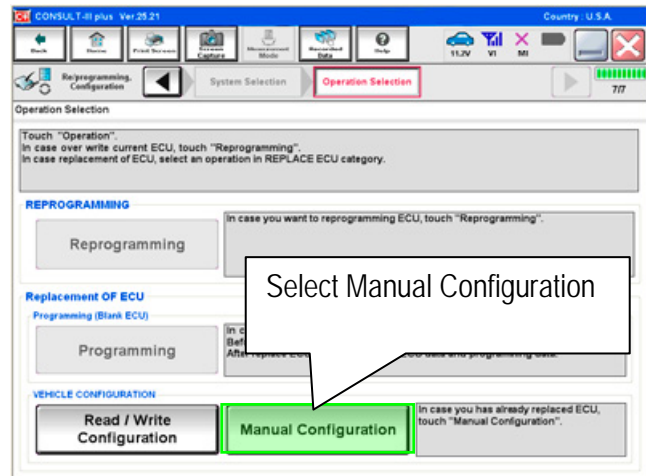

Figure 1
1. Navigate CIII-plus to the reprogramming screen in Figure 1.